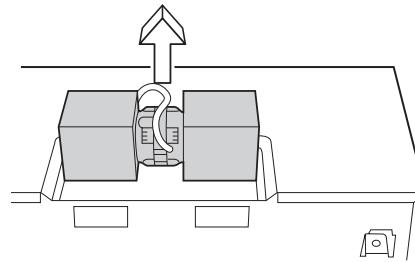

Figure 14
2. Lift the Hood Fan Unit carefully and slip wires out of cavity. See Figure 14.